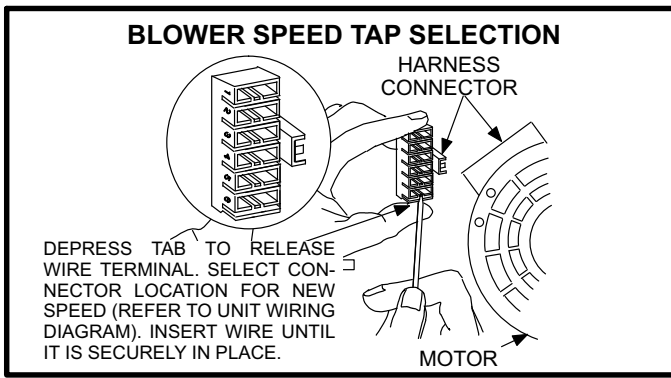

FIGURE 23
- 5- Depress harness connector tab to release wire terminal. Select connector location for new speed (refer to unit wiring diagram). Insert wire terminal until it is securely in place. See figure 23.